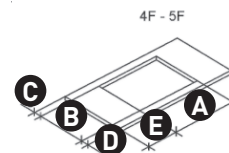

Fig. 7
- The dimensions of the opening in the work surface in which the hob is to be installed are shown in Fig. 7. The dimensions of the worktop opening in which the appliance is to be installed must be strictly observed (see fig. 7 and 8).